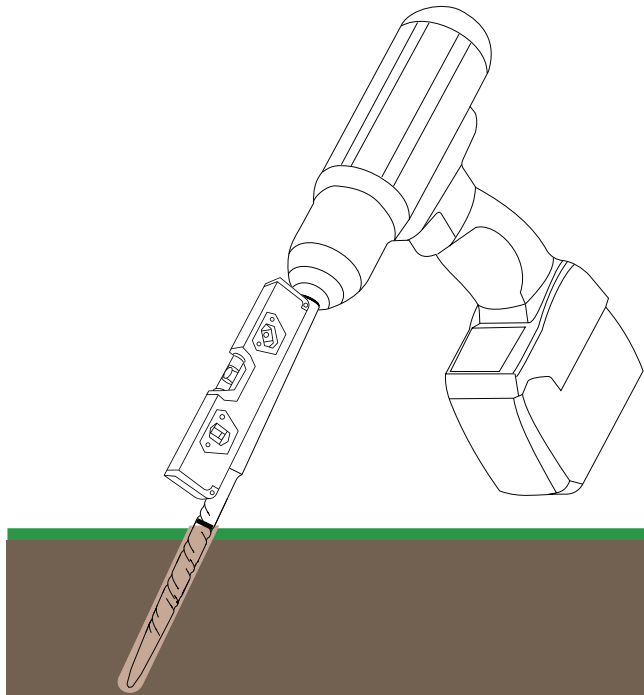

Figure 8 Drill bit and level
1. Mark the required drilling depth on the masonry drill bit (Figure 8).
2. To ensure the pilot hole is drilled correctly, use a level on the side of the drill bit to set the predetermined installation angle. (Figure 8).